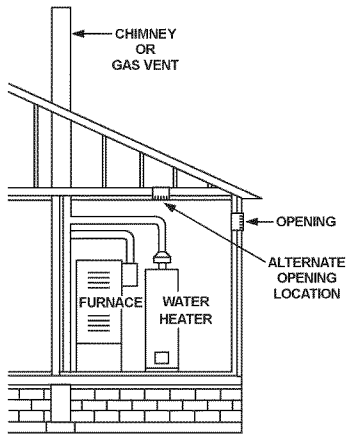

FIGURE 13
- Alternatively a single permanent opening may be used when communicating directly with the outdoors, or with spaces that freely communicate with the outdoors. The opening should have a minimum free area of 1 square inch per 3,000 BTU per hour (8.3 cm2/kW) of total input rating of all equipment in enclosure. See Figure 13.